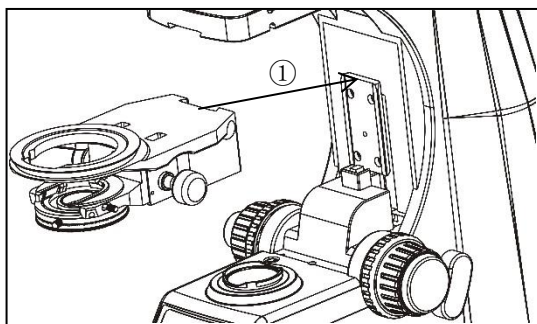
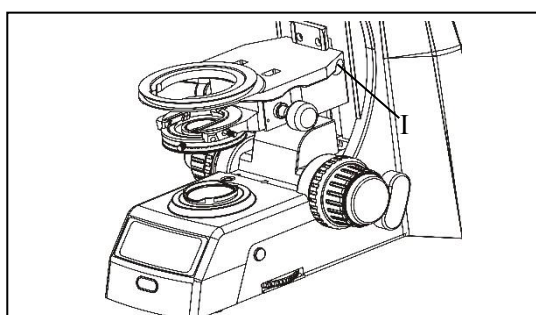

Figure 1
Figure 2
**4-2-1 Installation of mechanical carrier bays (Figure 1, 2)**
- ★ Rotating the coarse hand wheel causes the rack swallow tail to rise to the limit screw to expose the end face as shown, and then the platform carrier is installed in accordance with the path of Figure 1 serial number ①, aligning the swallowtail groove of the Chart 1 platform carrier with the swallowtail bulge of the rack, naturally sliding down until the lower limit screw is limited to the drop. Then tighten the screws at I in Figure 2 inward with a universal wrench with a microscope strap.